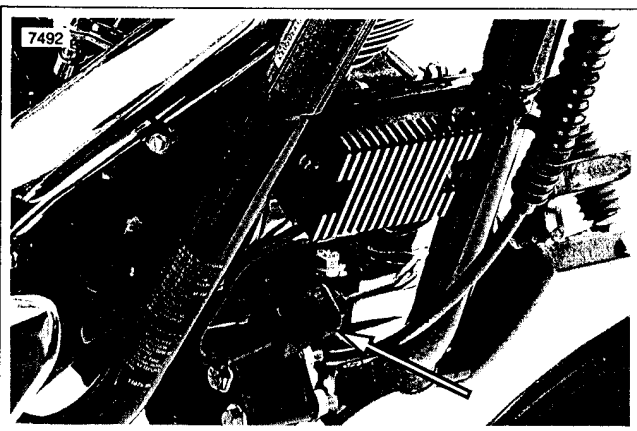

Figure 8-27. Voltage Regulator Connector [46]
3. See Figure 8-27. Remove rubber boot and connector [46] from screw on front engine mount. Slide rubber boot off of connector [46] and disconnect Facon connector.